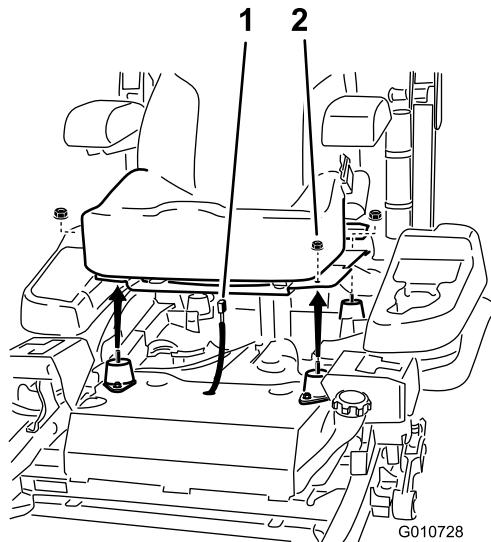

Figure 3
2. Remove the 4 flange nuts holding the seat to the machine (Figure 3).
3. Unplug the harness connector from the seat switch located under the seat towards the front (Figure 3).